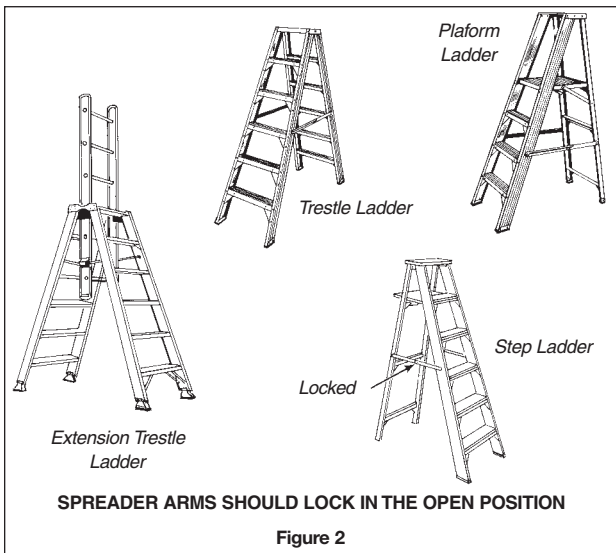

Figure 2
**Step, Trestle and Platform Ladders (Figure 2)**